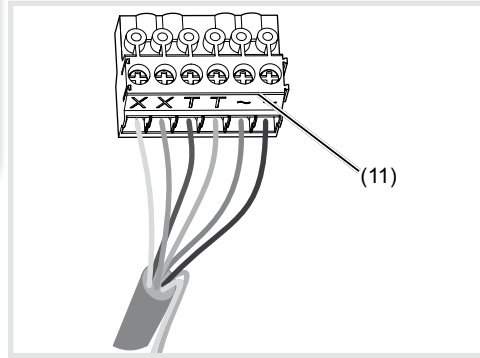

Figure 6: Wired connection terminal block
- Pull off connection terminal block (11) from the device.
- Connect the wire pair of the 2-wire bus cable to the terminals **XX** of the connection terminal block (Figure 6).
- Connect door release cable to the terminals **TT** of the connection terminal block (figure 6 and 7) if required.
- For call push-button backlighting connect 12 V~ lead from the power transformer to the terminals **~** of the connection terminal block (Figure 6... 8).